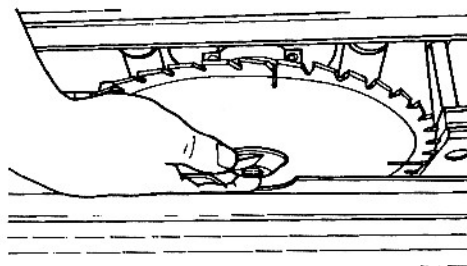

Fig. 47
56. Attach the arbor nut, as seen in Fig. 47, and hand tighten.